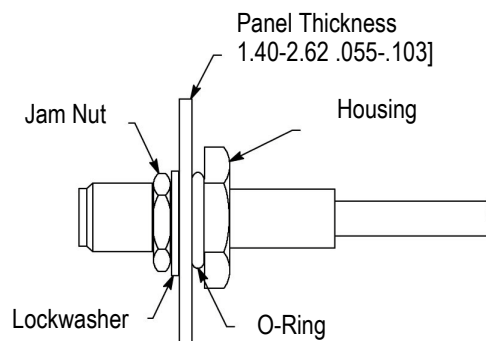

Figure 5
1. Cut the panel using the dimensions provided in Figure 5.
2. Install the O-ring onto the front of the housing. Insert the housing through the panel cutout until the O-ring is flat against the panel. Install the lockwasher and jam nut onto the front of the jack. Tighten the jam nut. Refer to Figure 5.